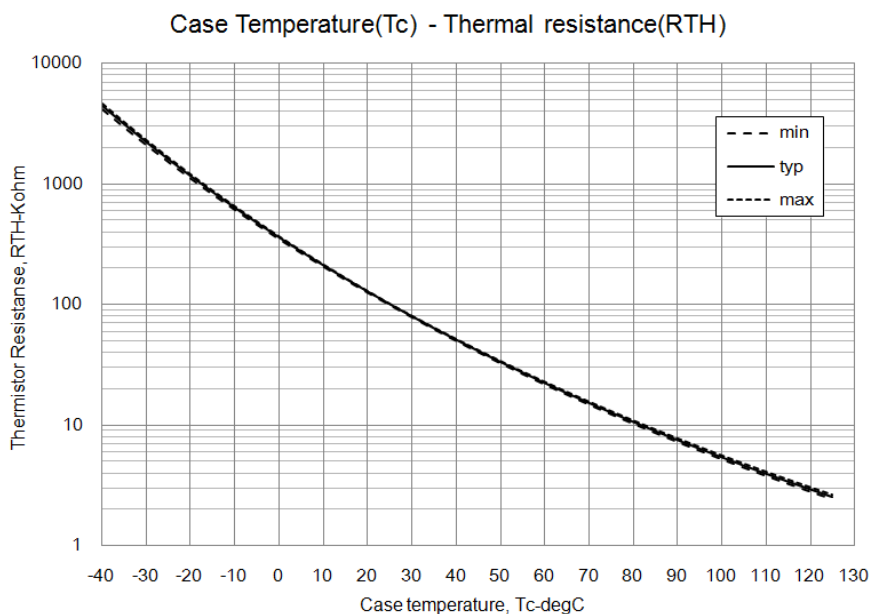
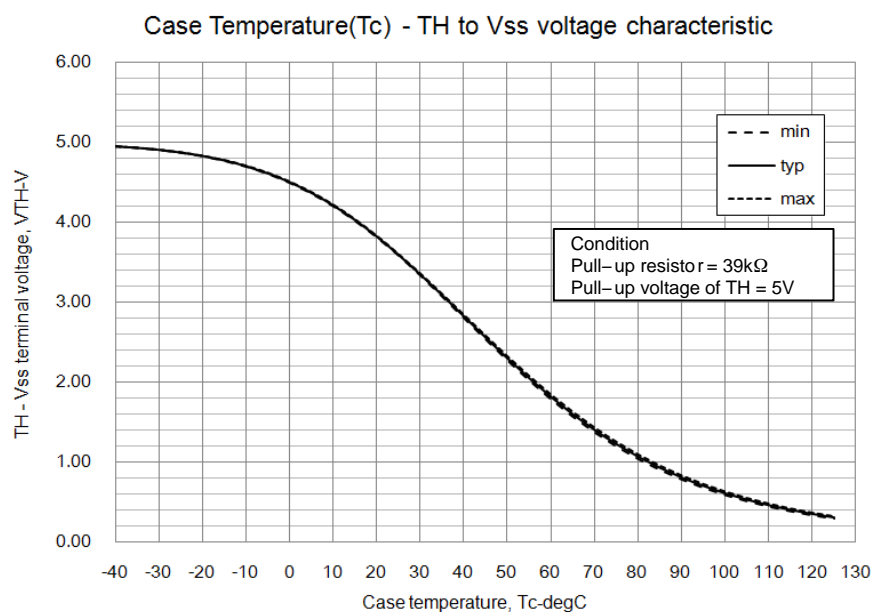

Figure 11. Thermistor Resistance versus Case Temperature
Figure 12. Thermistor Voltage versus Case Temperature
5. Inside the IPM, a thermistor used as the temperature monitor for internal substrate is connected between V_{SS} terminal and TH terminal, therefore, an external pull up resistor connected between the TH terminal and an external power supply should be used. The temperature monitor example application is as follows, please refer the Fig.11, and Fig.12 below.